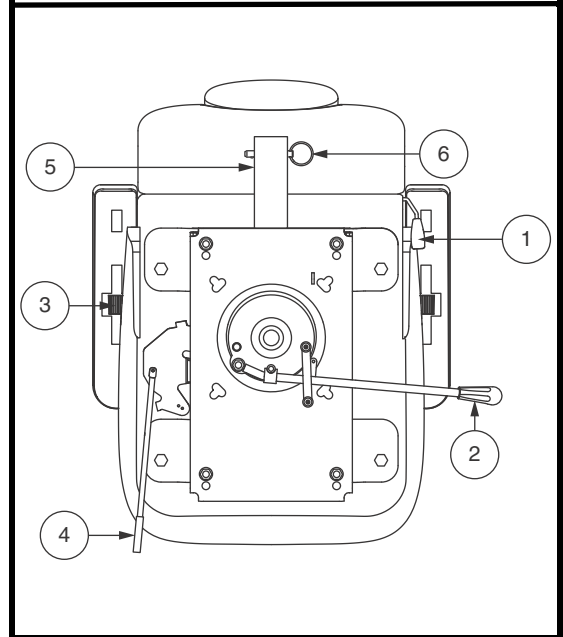

Figure 16. Seat Adjustments – Style B
If your scooter is equipped with a reclining seatback, you can adjust the seatback angle with the seatback adjustment lever. **See figure 16.**
1. Move the seat sliding lever (located at the lower left side of the seat) outward. **See figure 16.**
Armrest angle of your scooter can be adjusted upwards or downwards by turning the adjustment dial. See **figure 16**.
The rear-mounted accessory bracket allows you to attach a personal accessory such as a basket, walker holder, or any item to the back of your scooter. Utilize the detent pin to securely mount your item to the accessory bracket. See **figure 16**. See your authorized dealer for details.